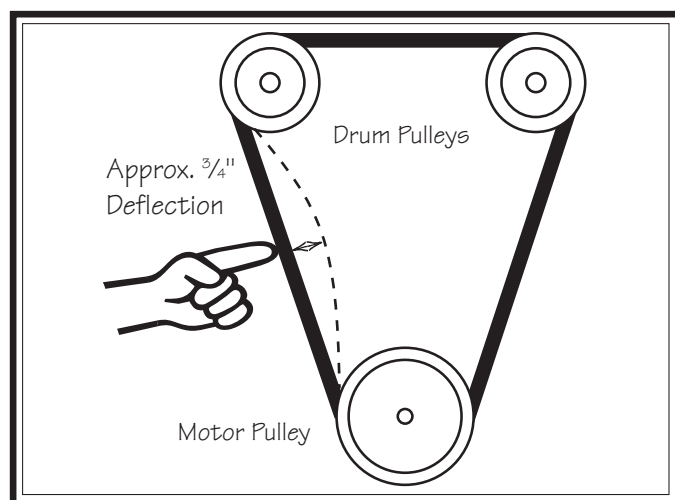

Figure 50. Proper V-belt deflection.
The sanding drums are driven by two V-belts. The belts must have proper tension for optimum power transfer. However, too much tension may cause premature bearing failure. Proper tension is achieved when the belts deflect about $\frac{3}{4}$ " with moderate finger pressure at the midpoint between the drum pulley and the motor pulleys (see Figure 50).
5. Check V-belt tension (see **Figure 50** on **Page 37**). If necessary, repeat **Steps 3–4** until belts are properly tensioned, then tighten hex bolts.